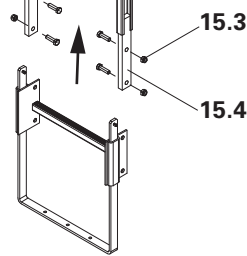

Fig. B1.38
3. Mount Ladder Base (30) (15.4) using bolts SW 19 (15.3). (Fig. B1.38)